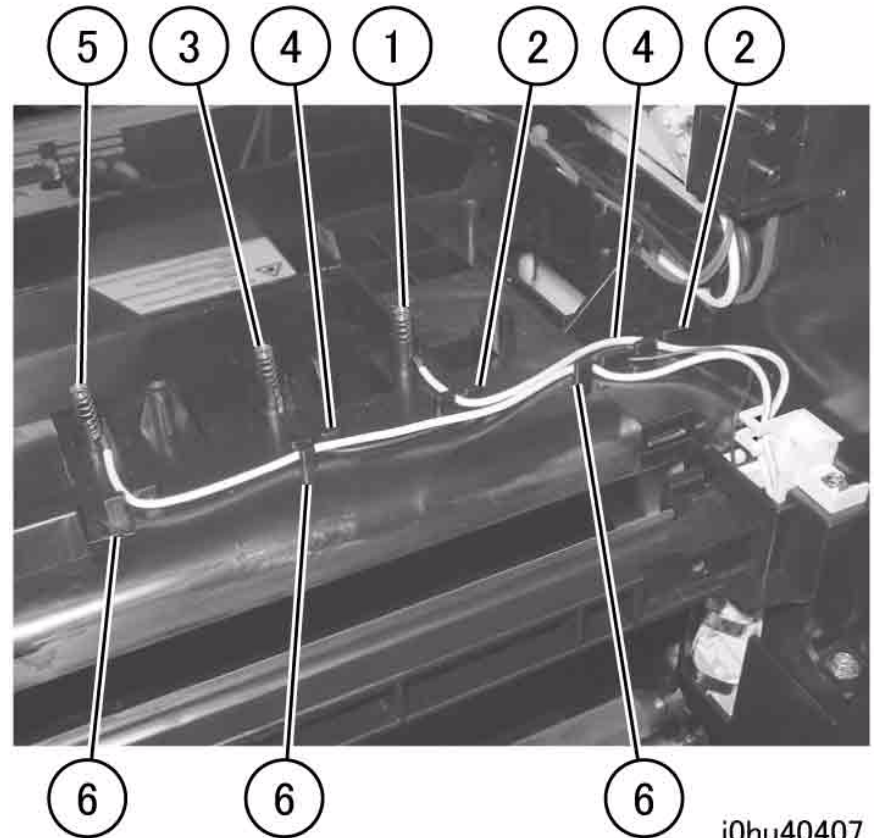

Figure 4 Remove Corotron Block Cables
9. Disconnect the Corotron Block cables (3) (Figure 4).